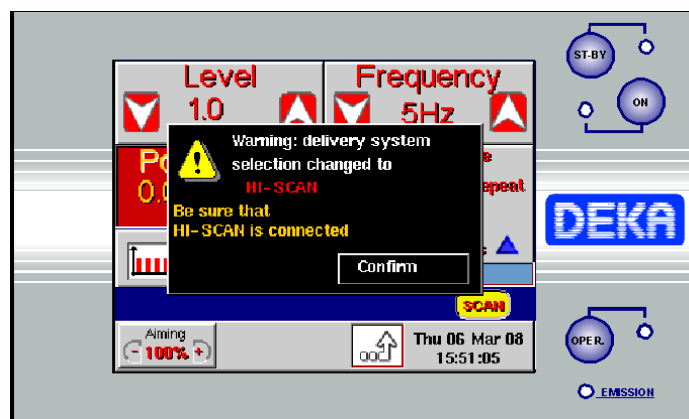
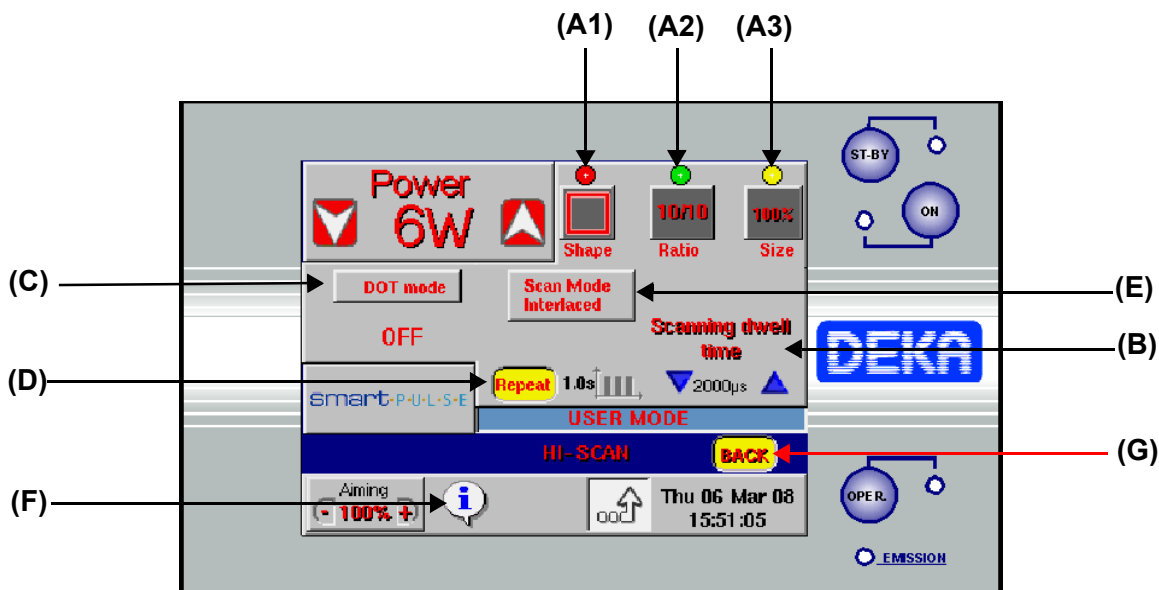
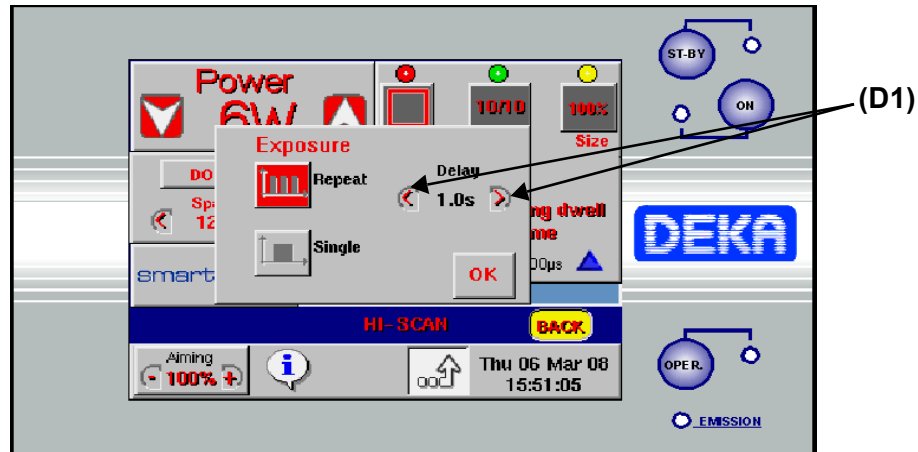
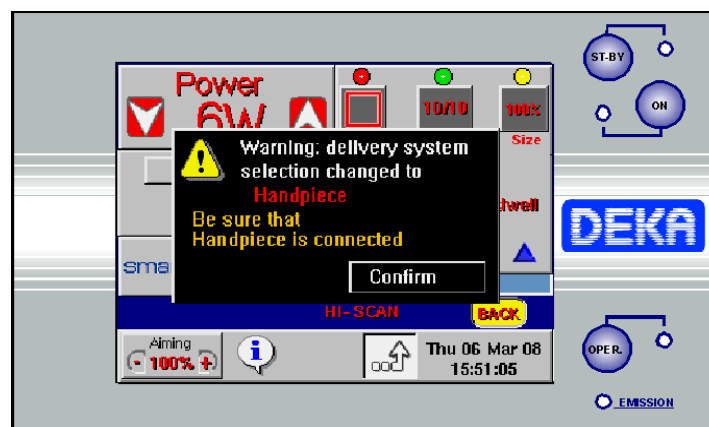

Fig. 15 - Message displayed when the DOT Scanner is activated
Fig. 17 - User menu when the DOT Scanner is activated
Fig. 21 - "Exposure" mode selection
Fig. 27 - Message displayed when the DOT Scanner is deactivated
The SmartXide system is provided by factory with the hardware and software needed to use a scanning unit called DOT Scanner available with the system accessories - *optional* -. If the external DOT Scanner is present, the system automatically detects its presence and allows to activate it via the control panel by pressing the area shown as (G) in Fig. 13 and in Fig. 14. The screen displays the message shown in Fig. 15 to warn the user that the delivery system selection has been changed; moreover the user is reminded to control the DOT Scanner connections.
To activate the external DOT Scanner, if properly installed, press the "SCAN" area in the User menu - (G) in Fig. 13 and in Fig. 14 - and press the "Confirm" area in the warning message shown in Fig. 15. Once the DOT Scanner has been activated, the screen changes as shown in Fig. 17: the system enables the standard scanning mode.
- ✓ user can select power and the "Scanning dwell time" - (B) in Fig. 17 -, that is the length of the DOT Scanner's emission, from 200 s to 20000 s or, *if the DOT mode is activated* (see the description of the (C) area), from 200 s to 2000 s;
the **Shape** area - **(A1)** in Fig. 17 - allows to change the shape of the scanning area;
the **Ratio** area - **(A2)** in Fig. 17 - allows to change the height-width rate of the scanning area;
the **Size** area - **(A3)** in Fig. 17 - allows to change the dimension of the scanning area - shown as percentage of the maximum available scanning area (15mm x 15mm) -.
- ✓ User can activate the "DOT" scanning mode just pressing the "DOT mode" area - **(C)** in Fig. 17 -. The system asks for confirmation.
Touch the area shown as **(D)** in Fig. 17 to enter the screen which allows to change the exposure mode - Fig. 21 -.
Two exposure modes can be selected by touching the respective areas - Fig. 21 -:
Use the arrow keys as shown as **(E1)** in Fig. 21 to change the "delay" time between two scans from 1s to 5s (step: 0.5s).
- ✓ It is possible to select the scan mode among **Normal**, **Interlaced** or **SmartTrack** just touching the area shown as **(E)** in Fig. 17:
- ✓ It is possible to display a screen containing additional information about the scanning, by pressing the area shown as (F) in Fig. 17.
Touch the area of the screen shown as (G) in Fig. 17: the SmartXide system displays the message shown in Fig. 27 to warn the user that the delivery system selection has been changed; moreover the user is reminded to **connect the handpiece**.